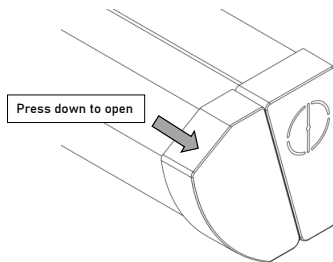

Fig. 1
- Squeeze the sides and hinge the diffuser away from the fitting. Once the product is fixed to surface, it can only be opened by pressing down on both end caps. (see Fig. 1)